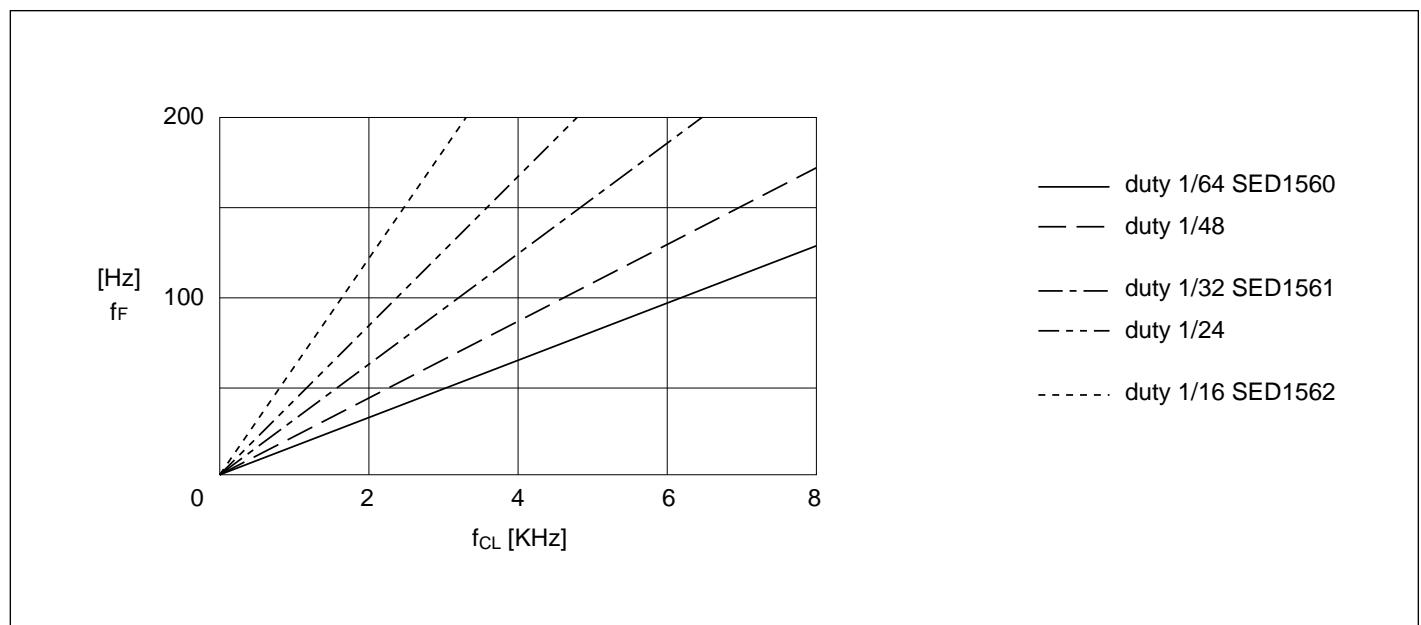
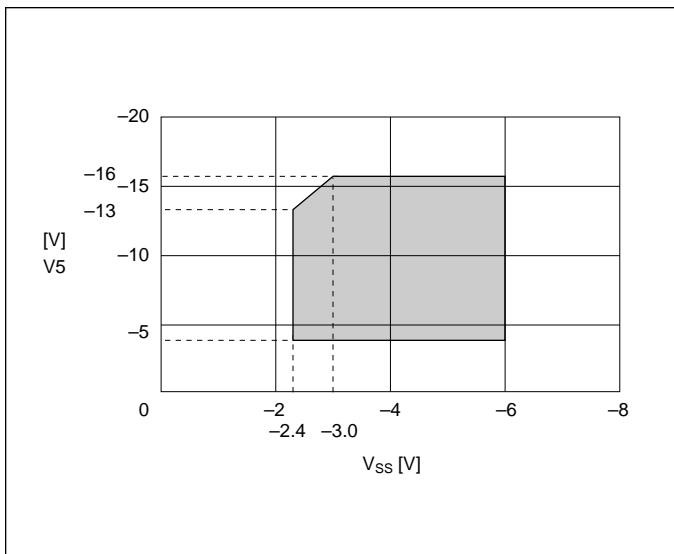

Figure 3.2 External clock ( $f_{CL}$ ) vs. frame frequency [SED1560 Series]
Figure 3.3
- \*2. The operating voltage range of the Vss and V5 systems (see Figure 3.3). The operating voltage range is applied if an external power supply is used.
- \*3. Pins A0, D0 to D7, RD (E), WR (R/W), CS1, CS2, FR, SYNC, M/S, C86, SI, P/S, T1 AND T2.
- \*6. Pins A0, RD (E), WR (R/W), CS1, CS2, CL, M/S, RES, C86, SI, SCL, P/S, T1, and T2.
- \*8. The resistance when the 0.1-volt voltage is applied between the "On" output terminal and each power terminal (V1, V2, V3 or V4). It must be within the operating voltage (2).
- \*9. The relationship between the oscillation frequency, frame and Rf value (see Figure 3.2).